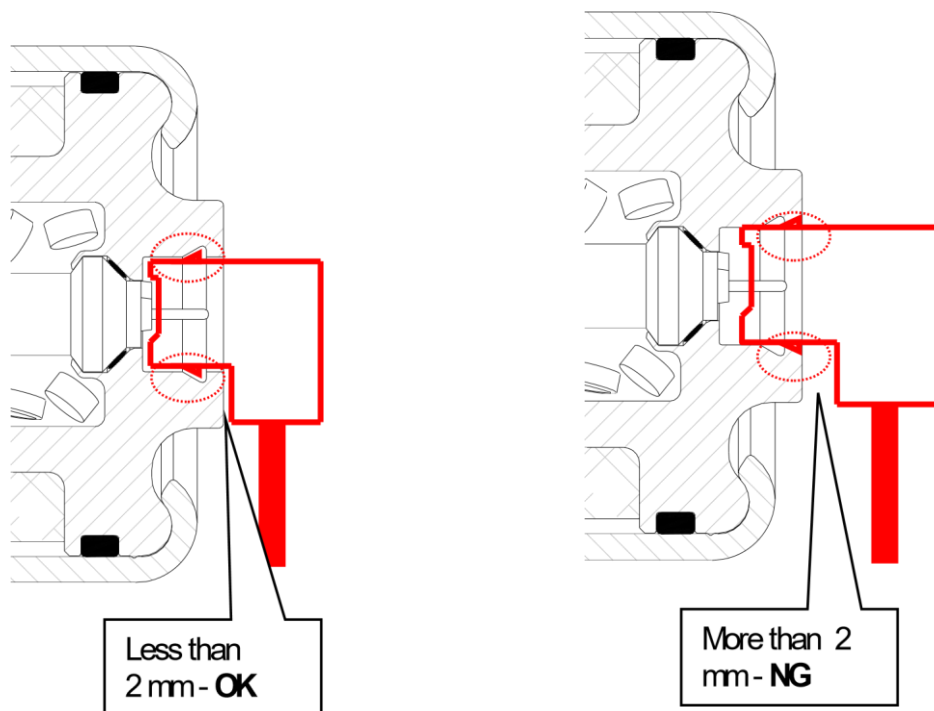

Figure 44
□ Make sure the inflator connectors are fully engaged / seated (see Figure 44).